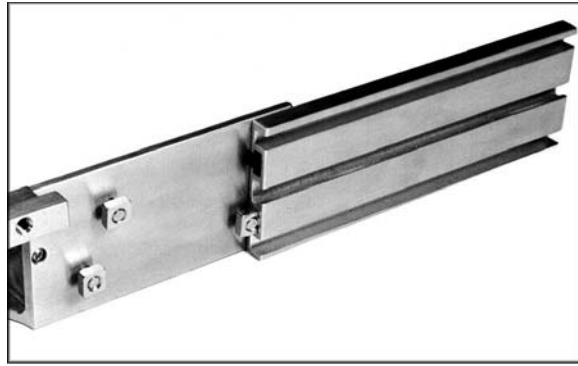

Figure 7
1. Take the three button head Phillips screws and put one through each hole on the vertical side of the aluminum fence support (Fig. 7). There are three holes on each side of the fence support; do one side at a time. Start the square nuts on each screw. Do not tighten, leave loose for installation.